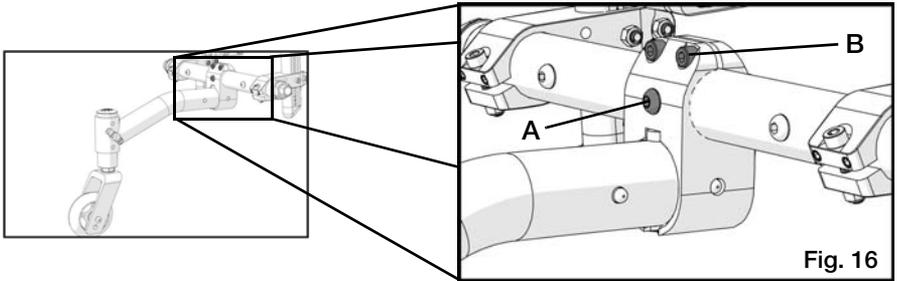

Fig. 16
2. Instructions for removal with STANDARD 5th wheel (Fig. 16):
- b. Using a 3mm hex wrench and 8mm wrench, remove 5mm button head screw from receiver (Fig. 16:A).
- c. Using a 4mm hex wrench, loosen the two 5mm socket head screws (Fig. 16:B) until receiver slides freely on camber tube.